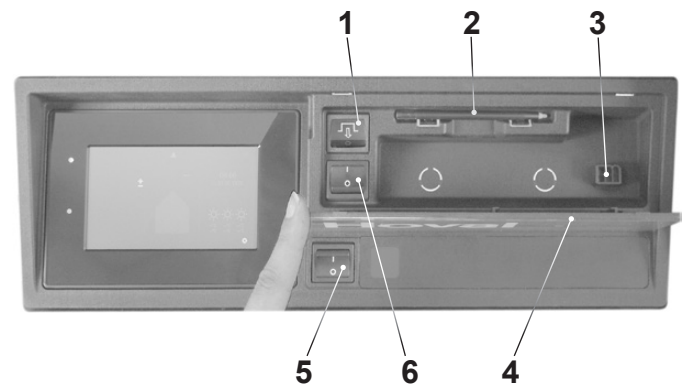

Fig. 29
- Check the position of the blocking switch (5, Fig. 29).
To reset the fault message for the heat pump automatic function device, the "Reset button" (1, Fig. 29) on the TopTronic® E controller must be pressed **for at least 1 second**.
Below the reset button (1, Fig. 29), there is a mains isolator switch (6) with which the heat pump can be disconnected from the electrical power supply.